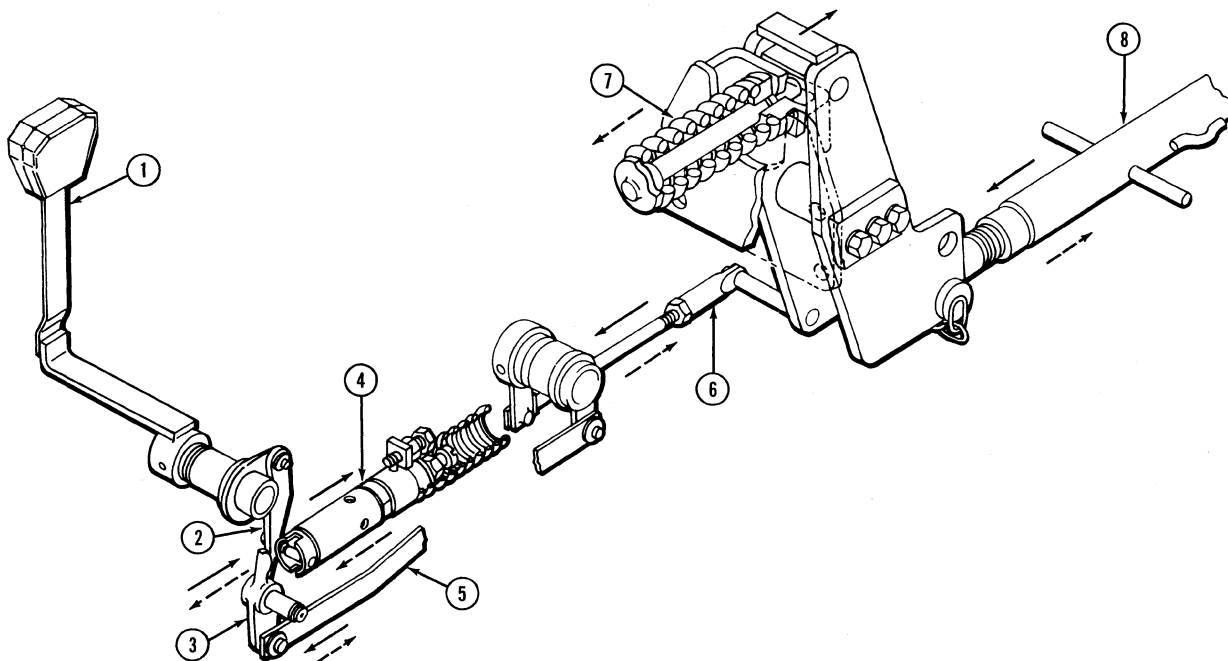

Figure 26
1. Link Operation With a Compressive Force Received From the Top Link (Figure 26)
3. Link Operation With Various Draft Control Settings (Figure 26)
When the tractor passes the soft ground, pressure is applied on the responsive spring, activating cam B (3), (Figure 26) and lifting the plow.